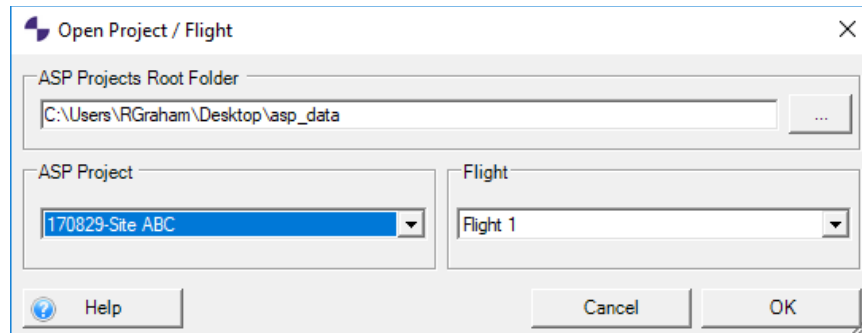

Figure 27 - Project and Flight Selection
2. All projects in the root folder will be visible in the *ASP Project* drop down menu. Select the project and flight you wish to process (Figure 27). Click Ok to open the project.